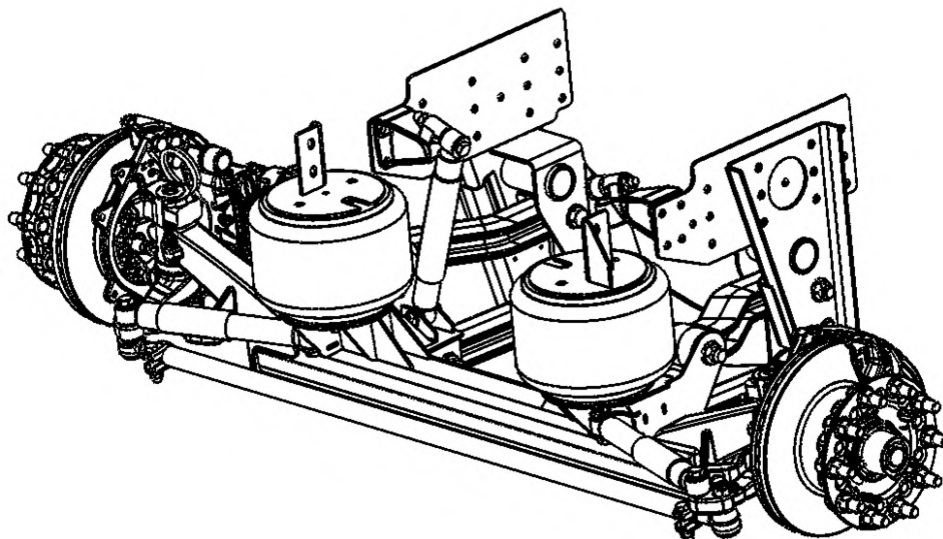

Figure 3
4. Confirm that the components listed have been provided in sufficient quantities. (See Figure3) Contact **Reyco Granning®** Customer Service Department if any missing or damaged components are found.